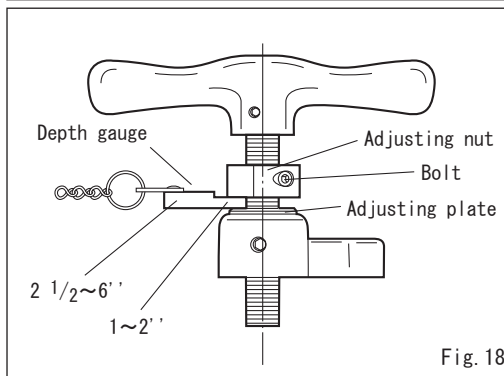

Fig. 18
- 2) Place a depth gauge on the adjusting plate, nip the portion with the thickness matching the pipe size with an adjusting nut, tighten the bolt firmly, then lock the adjusting nut. (Fig. 18)